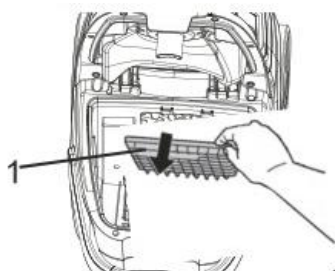

Fig. 22
2. Remove the filter holder with motor protection filter (Fig. 22/1). You first the filter holder forwards and then pull the filter up and out.